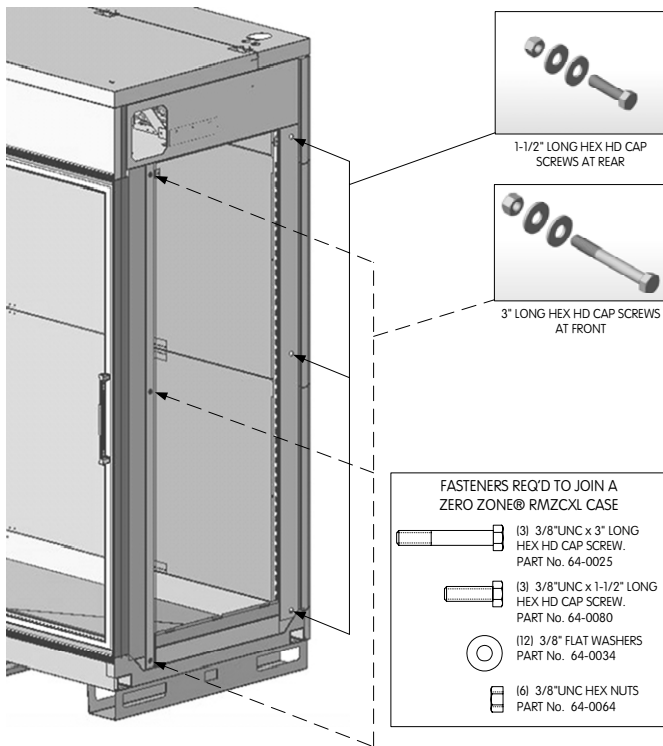

FIGURE 2C
3. Start the joining bolts, but do not tighten them. Begin tightening the bolts at the top rear, working down the back of the case and up the front making sure that the front faces of the cases are flush (See Figure 2C). Pay attention to the alignment of the doorframes.